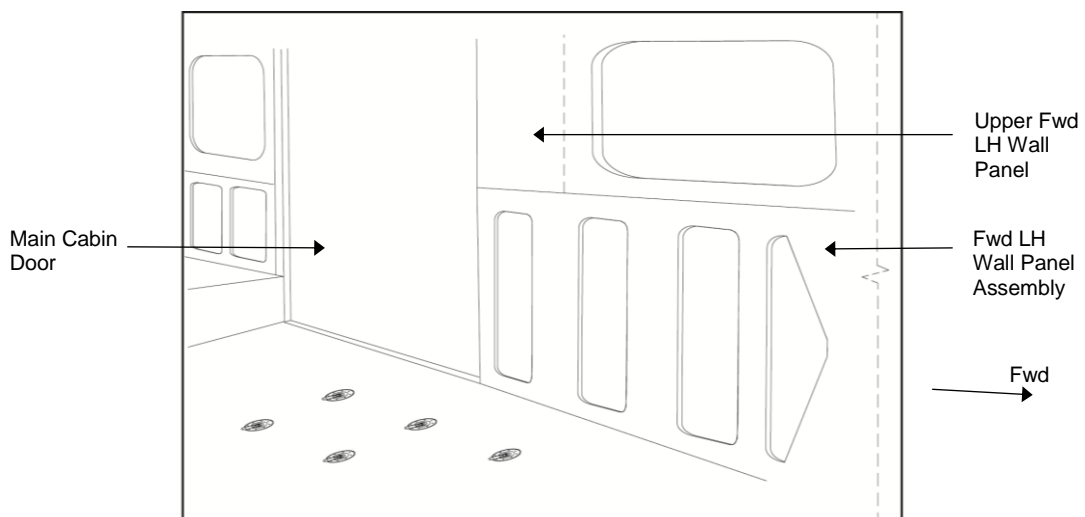

Figure 7: LH Interior Trim Panels
- 2) Remove Fwd LH Wall Panel Assembly (GA8-252014-051) (See Figure 7).
- 4) Remove the Upper Fwd LH Wall Panel (GA8-252024-153) (See Figure 7).